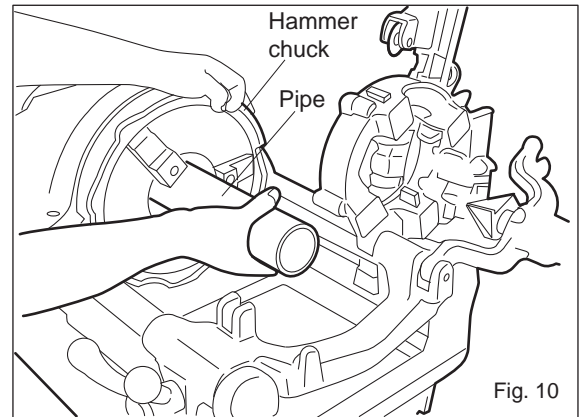

Fig. 10
- Open the hammer chuck and rear chuck wider than the size of the pipe to be threaded and insert the pipe from the rear chuck side where possible. (Fig. 10) (In the case of a short pipe, insert a pipe from the chuck side.)